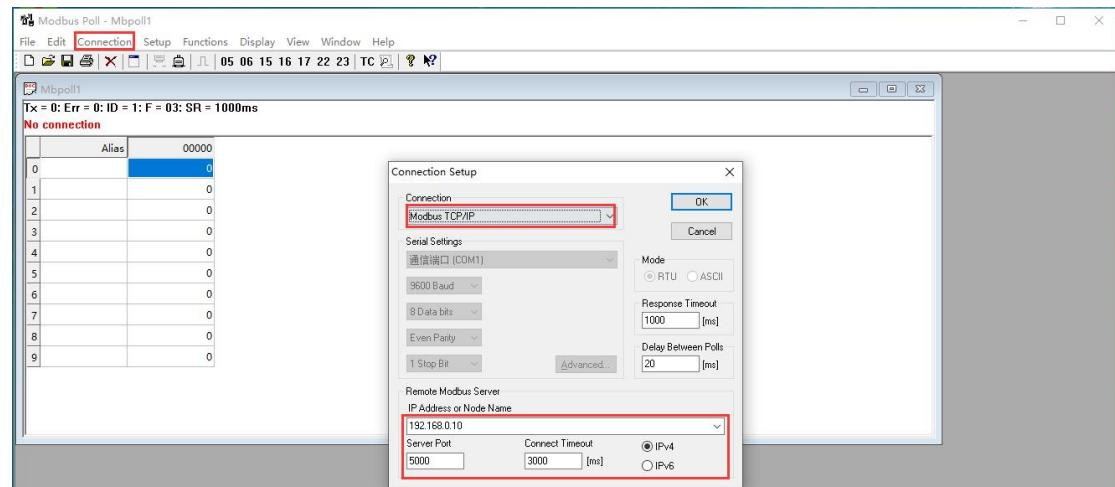

Figure 6-24 MODBUD \_ TCP Host Parameter Settings
- 4) Click "Connection" to create a connection, and the MODBUD \_ TCP end setting parameters are shown in Figure 6-24.